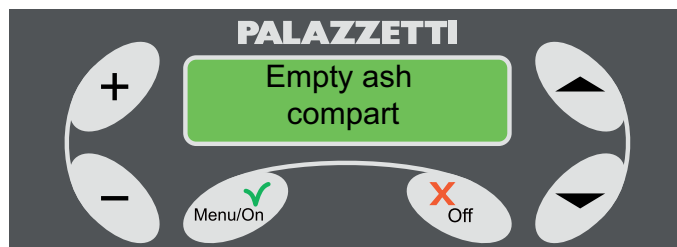

Fig. 1.5.2
- 2) By pressing the Menu/On button, “Empty ash compart” will appear (Fig. 1.5.2);